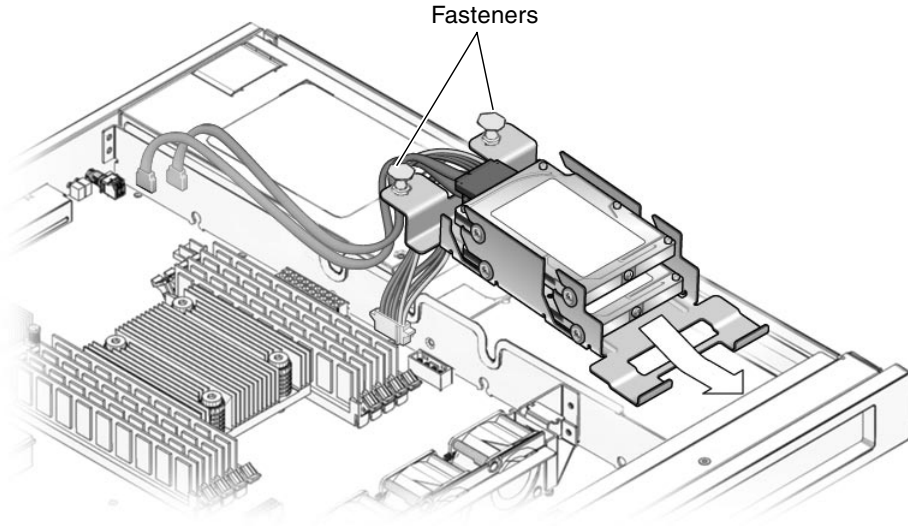

FIGURE 5-13 Installing the Dual-Drive Assembly
3. **Slide the drive assembly into the chassis until it mates with the front of the chassis (FIGURE 5-13).**
4. Push the fasteners down to lock the drive assembly into place in the chassis (FIGURE 5-13).